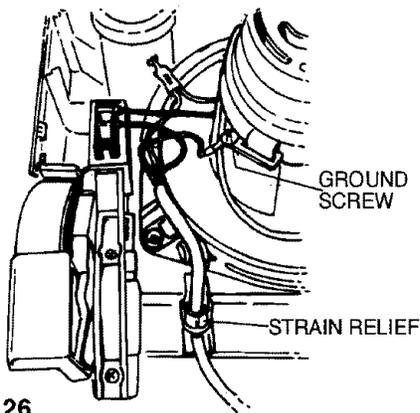

Fig. 26
**Note:** Upon reassembly, route cord as shown in Fig. 26. Also it is **very important** to reconnect ground lead.